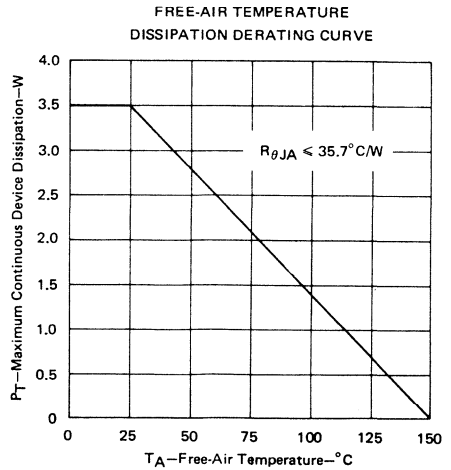

FIGURE 9
3. Derate linearly to 150°C case temperature at the rate of 1 W/°C or refer to Dissipation Derating Curve, Figure 9.